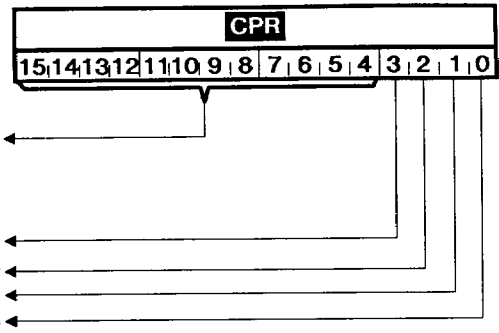

FIGURE 9. CODE PAGE REGISTER ( CPR ) BIT FIELD ASSIGNMENTS
**CPR** : The **Code Page Register** contains the value for the current Code page. See Figure 9 for bit field assignments.